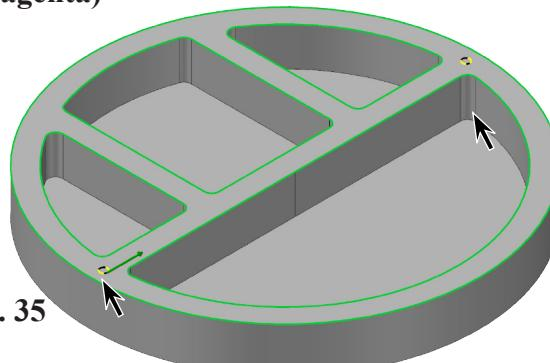

Fig. 34
Step 2. Click **both Pin holes (magenta)** to chain, Fig. 34.